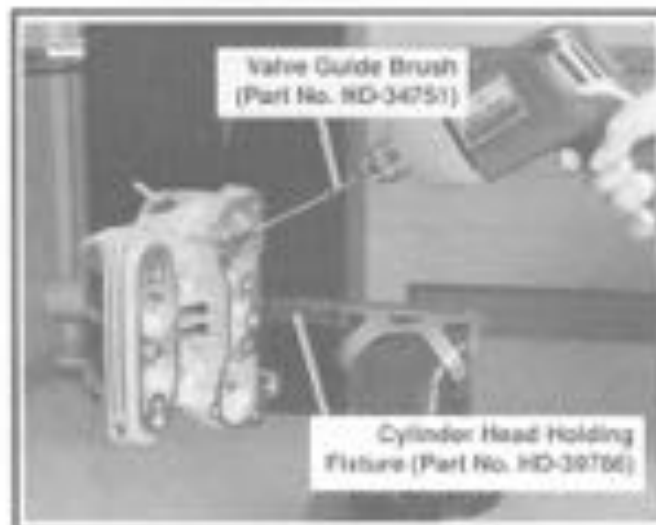

Figure 3-19. Honing Valve Guides
- See Figure 3-19. Apply the proper surface finish to the valve guide bore using the VALVE GUIDE HONE (Part No. HD-34723). Lubricate hone with honing oil. Driving hone with an electric drill, work for a crosshatch pattern with an angle of approximately 60°.